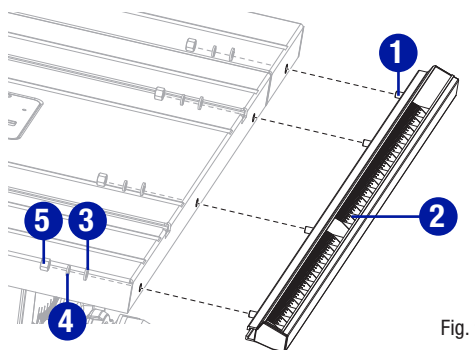

Fig. 9b
- Insert the hex bolts M6 x 12 (1) through the holes on the work table and right extension table, then put on the flat washers 6 (3) and spring washers 6 (4) and loosely tighten the hex nuts M6 (5) as shown in the Fig. 9b.